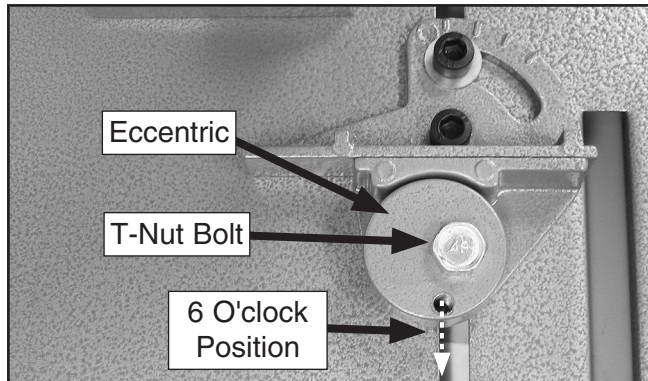

Figure 3. G8183 quick lock vise.
- Remove the lever on the eccentric, loosen the T-nut bolt so it is just finger tight, then rotate the cam so the threaded hole is at the 6 O'clock position as shown in **Figure 3**.
- Reinstall the lever, and move it to the left so the cam tightens and both vise jaws clamp together (**Figure 3**).